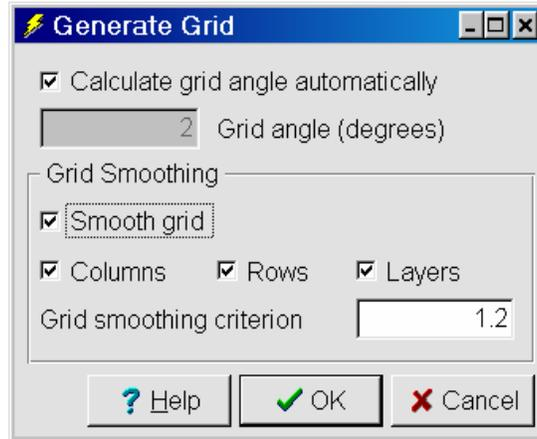
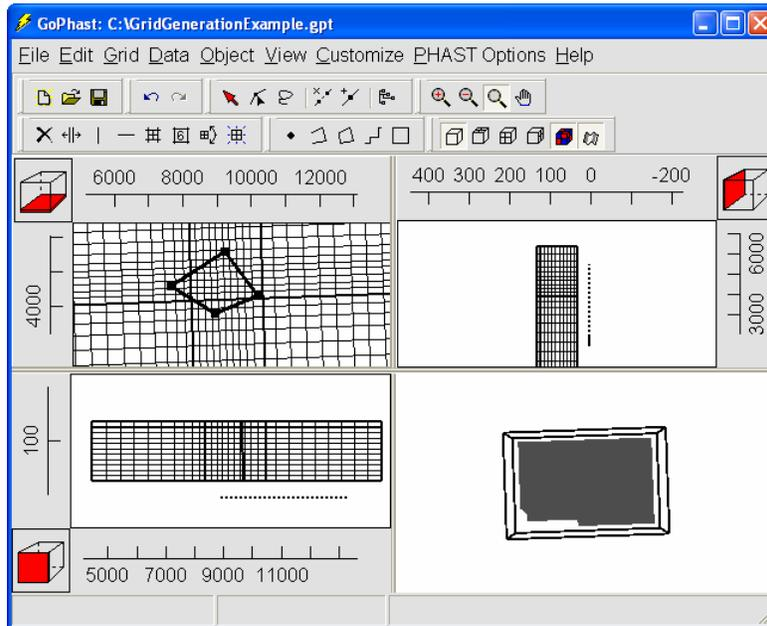

Figure 13. Generate Grid dialog box with grid smoothing activated.
Figure 14. Grid generated with grid smoothing.
5. In some cases, it may be desirable to have a gradual transition in element size. A size transition can be achieved by checking the **Smooth grid** checkbox in the **Generate Grid** dialog box (fig. 13). When it is checked, the widths of the columns, row, or layers will be adjusted so that the maximum ratio of the widths of adjacent cells is less than or equal to the grid smoothing criterion. An example of such a grid is shown in figure 14. See “Editing the Grid” on p. 38 for more information on grid smoothing.